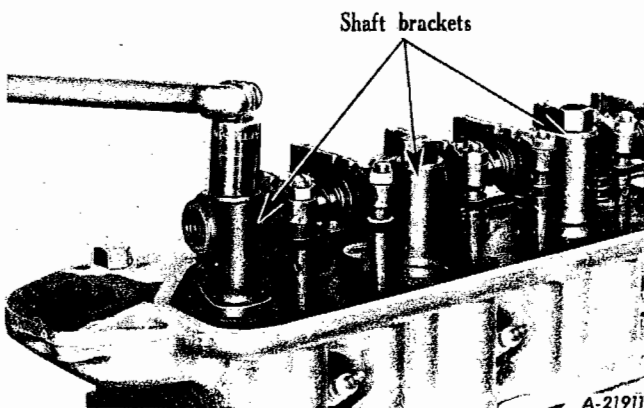

Fig. 6
2. Remove capscrews from shaft brackets (Fig. 6).